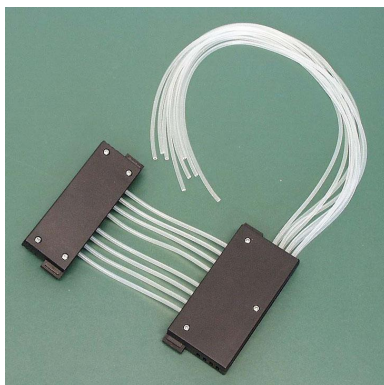

Figure 5-51. Lower and upper part of the dispensing cassette fitted
16. Fasten the front cover retaining screw (Figure 5-51).